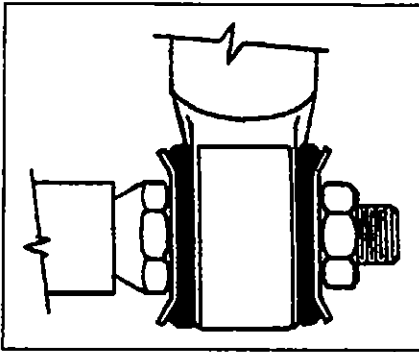

Figure 6
3. Place the inner washers (with washer convex side facing the shock absorber rubber bushing) on each shock absorber pin (see fig. 6).